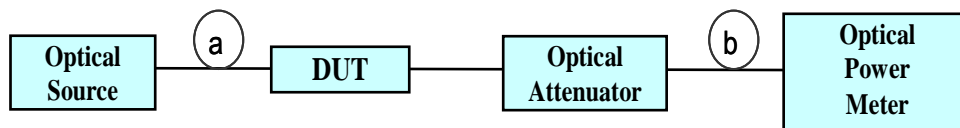

Figure 4. Shelf Type EDFA Measuring Instrument Setup
- 1) Connect the measuring instrument in Figure 4.
- 2) Check the optical signal power from the optical source ③ by using the optical power meter. The optical signal power from the optical source must be above the minimum optical input power of EDFA. The minimum optical input power and operating wavelength referred to the TEST REPORT.
- 6) Under normal operating conditions, that is, LASER ON state, and the optical input power condition is within the optical input power range of the EDFA, check the optical output power of the EDFA (⑥).